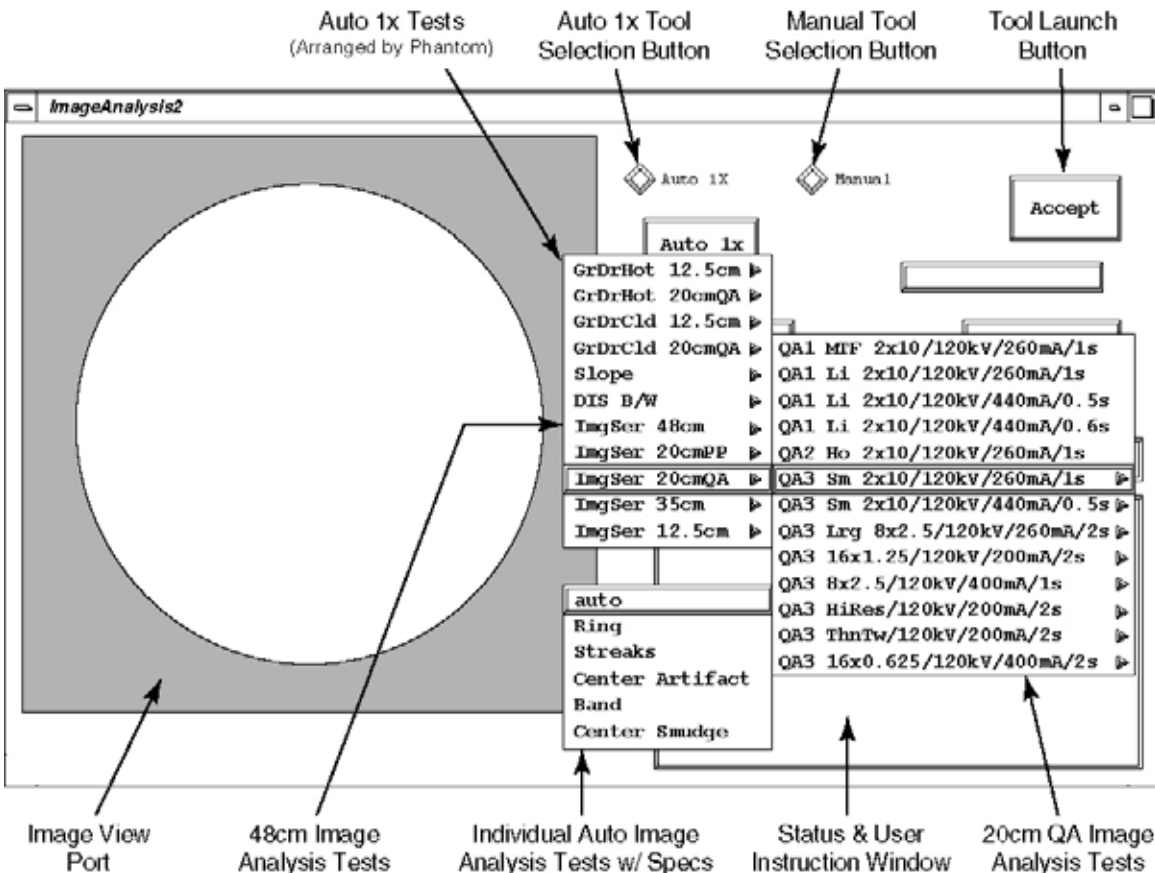

Figure 3-2 Image Analysis Tool User Interface - Auto 1x Test Pull Down Menu
b.) On the Image Analysis Tool window, click on the AUTO 1X diamond shaped button. (See Figure 3-2, on page 63.)